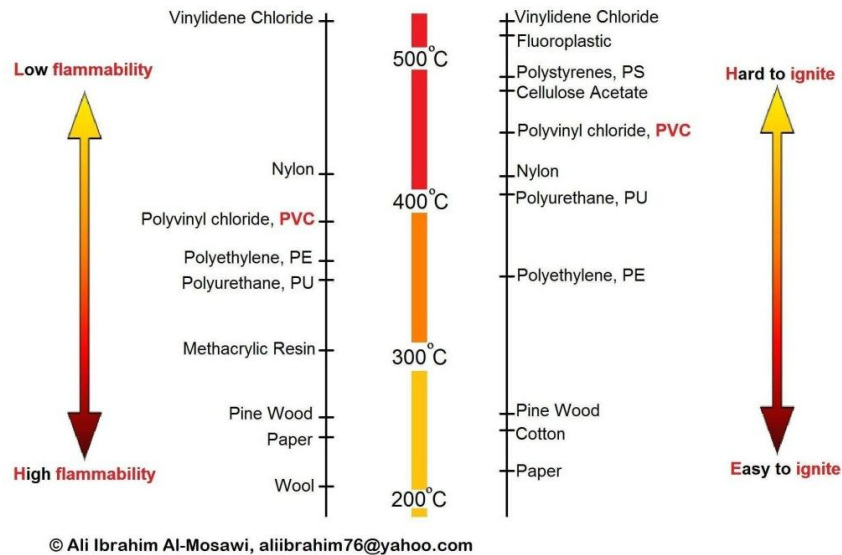

Figure.2: Flammability ranges of non metallic materials including
4. **Flammability:** The flammability is defined as a material's ability to catch fire, causing a fire, combustion, or even an explosion if the material is unstable. According to this, in case heat or sparks are involved, the material should not be flammable. The flammability ranges of non metallic materials are shown in **Figure.2**.